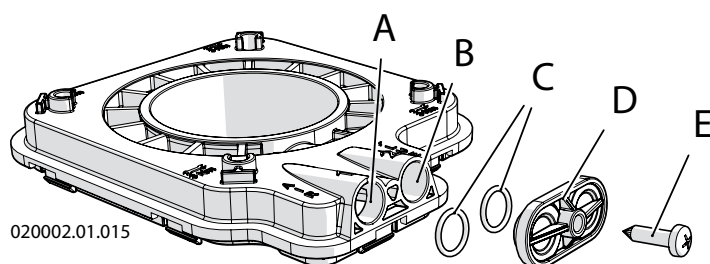

Figure 6-10 - Combustion analysis port on ICW 25 and 35
- 1.- insert a combustion analyser on the appropriate point on the flue fitting "B" in figure 6-10 or 6-11;